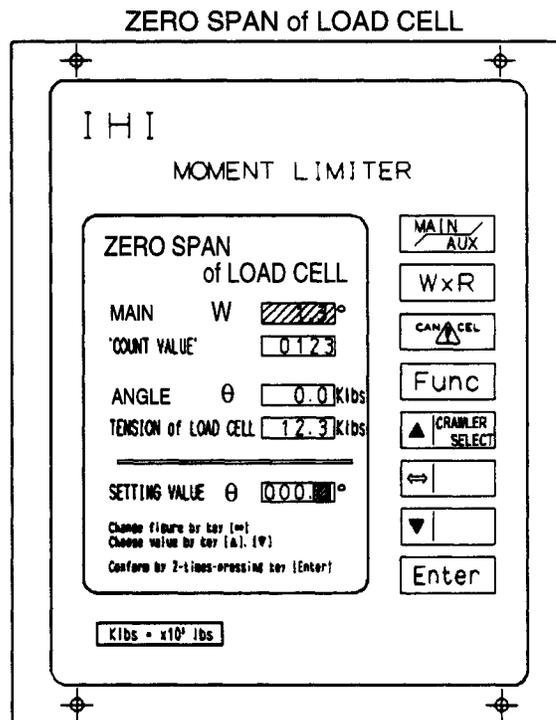

Figure 8
- 4.) Bring the ZERO SPAN OF LOAD CELL screen up on the Moment Limiter (see Figure 8).